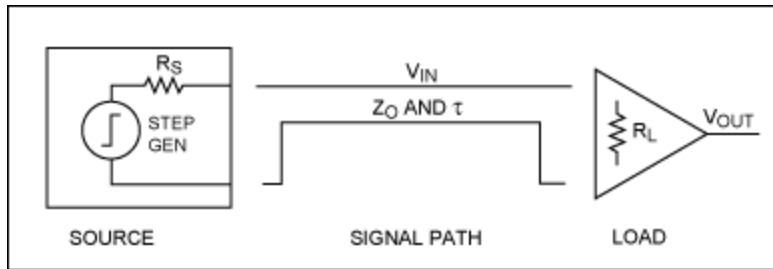
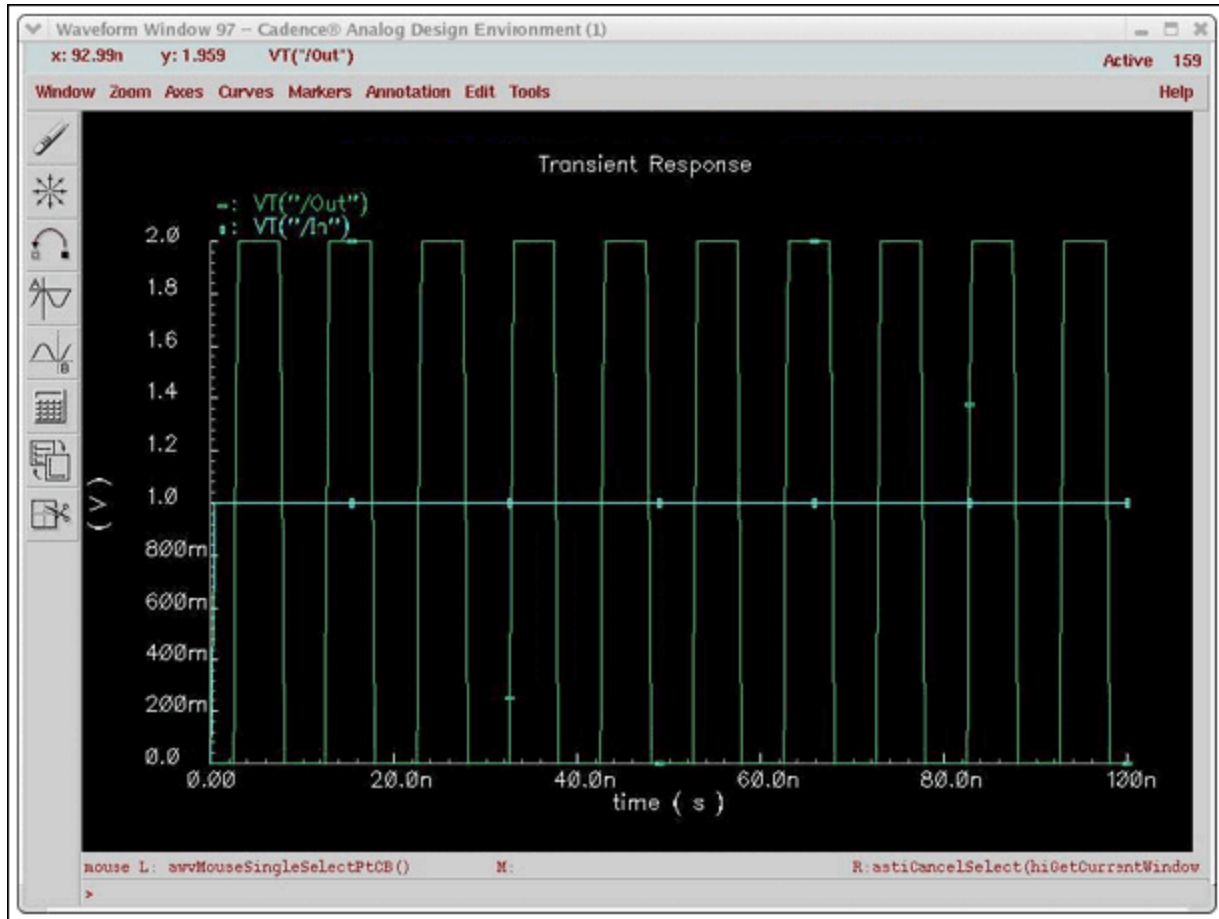

Figure 4. Test schematic.
Figure 5.  $R_S = 0\Omega$ ,  $R_L = \infty$ ,  $Z_O = 50\Omega$ ,  $\tau = 2.5ns$ .
All three of these impedance parameters affect the signal in different ways. Their effects will be analyzed using the setup shown **Figure 4**. This setup is the basic circuit used for all of the case studies.
There are two reflections that can occur in a setup like the one in Figure 4. One of these is the source-reflection coefficient (SRC) or interaction of  $R_S$  with  $Z_0$ , and the second is the load-reflection coefficient (LRC) or interaction of  $Z_0$  with  $R_L$ . Each of these reflection coefficients represents the fraction of the voltage that is reflected and is defined as follows:
The following four case studies refer to the setup in Figure 4. The only parameters that change are  $R_S$ ,  $Z_0$ , and  $R_L$ .
The generator in Figure 4 supplies a stepped pulse of amplitude 1V and a rise time ( $t_r$ ) of 500ps. The simulated plot of  $V_{OUT}$  with the above impedances is shown in **Figure 5**.
2. Not matching the source, signal path, and load carefully can lead to problems from full oscillations, or bad ringing effects, at the output. These problems are shown very clearly in Figures 5, 6, and 7.
The fastest approach to optimizing a signal path is the use of a SPICE type of simulator. The circuit can be as simple as that shown in Figure 4. It is important to keep the following points in mind.
1. Use an accurate model of the source, as depicted in Figure 4. Only the output section of the source needs to be modeled. This model should show the series resistance, series inductance, and shunt capacitance.
2. The transmission line depicted in Figure 4, whether it be a PCB trace, coaxial cable, twisted pair cable, etc., also need to be accurately modeled.
3. Finally, the Figure 4 load must also be modeled precisely to reflect the resistance, inductance, and shunt capacitance.